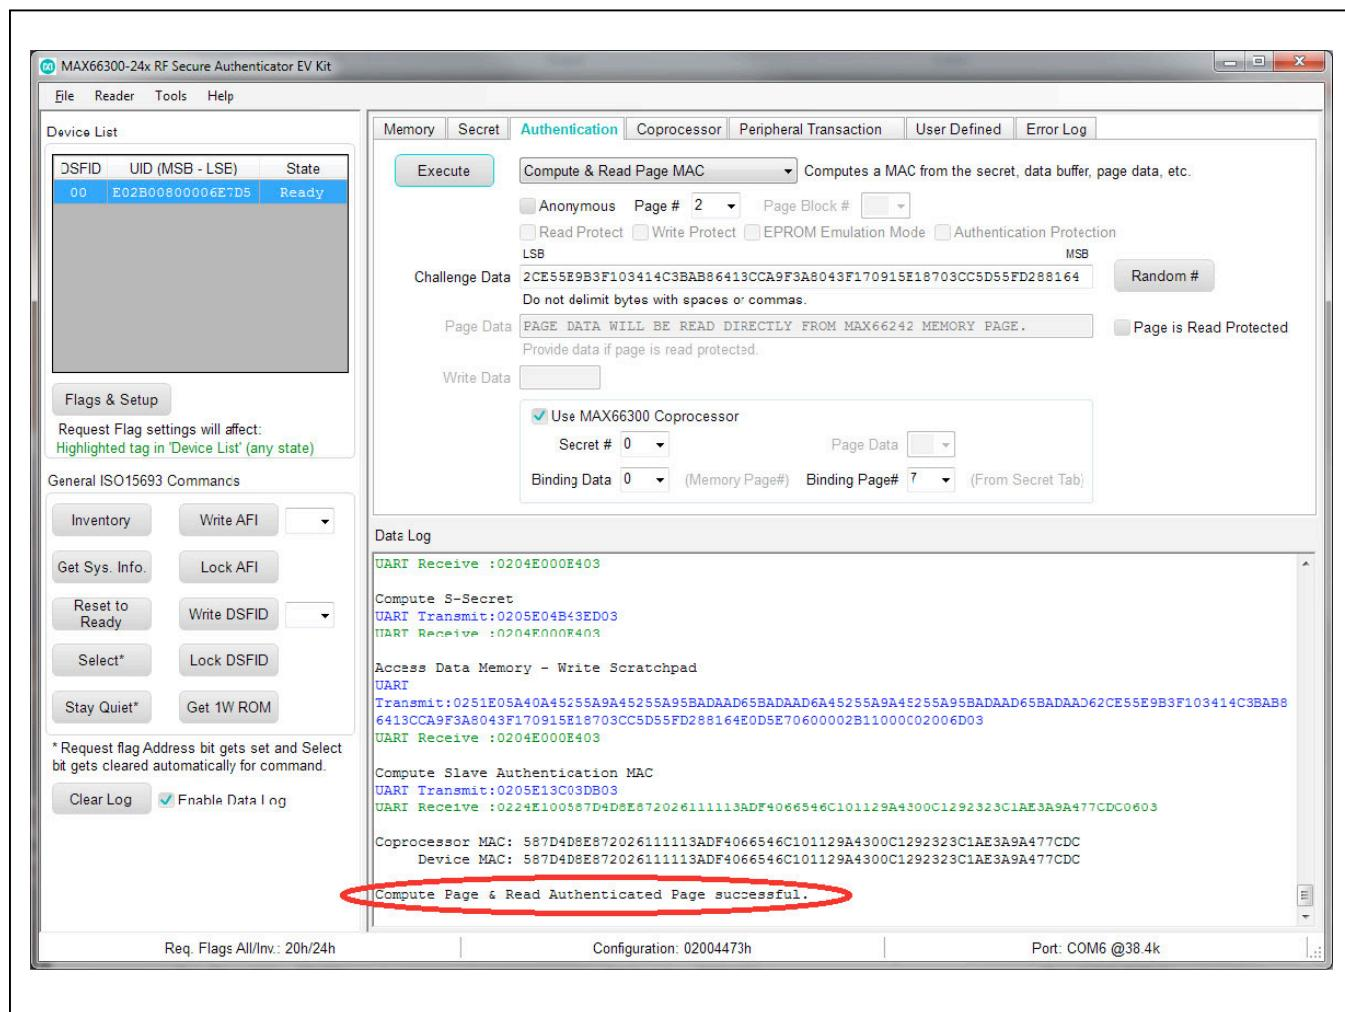

Figure 37. Confirm Compute Success
- 7) Confirm the **Compute Page & Read Authenticated Page successful** displays (Figure 37). If successful, this means the compare of the SHA-256 computed Device MAC (i.e., MAX66242) and the Coprocessor MAC (i.e., MAX66300) are the same. Therefore, the MAX66242 tag is authentic, concluding the authentication tutorial steps.